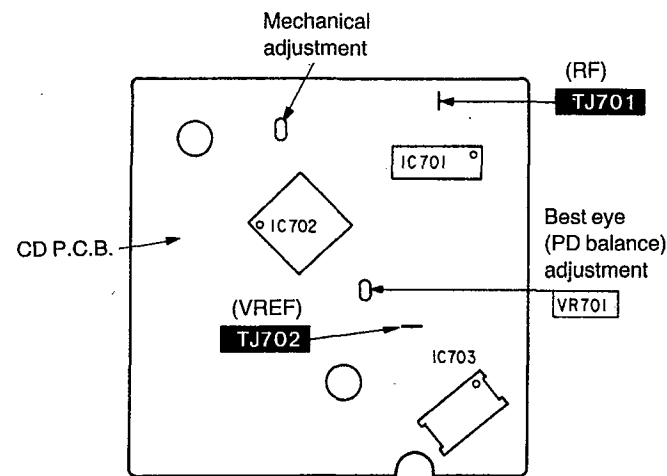

Fig. 2
- Adjust VR701 until the RF signal eye pattern amplitude is maximized. (Shown in Fig. 2)